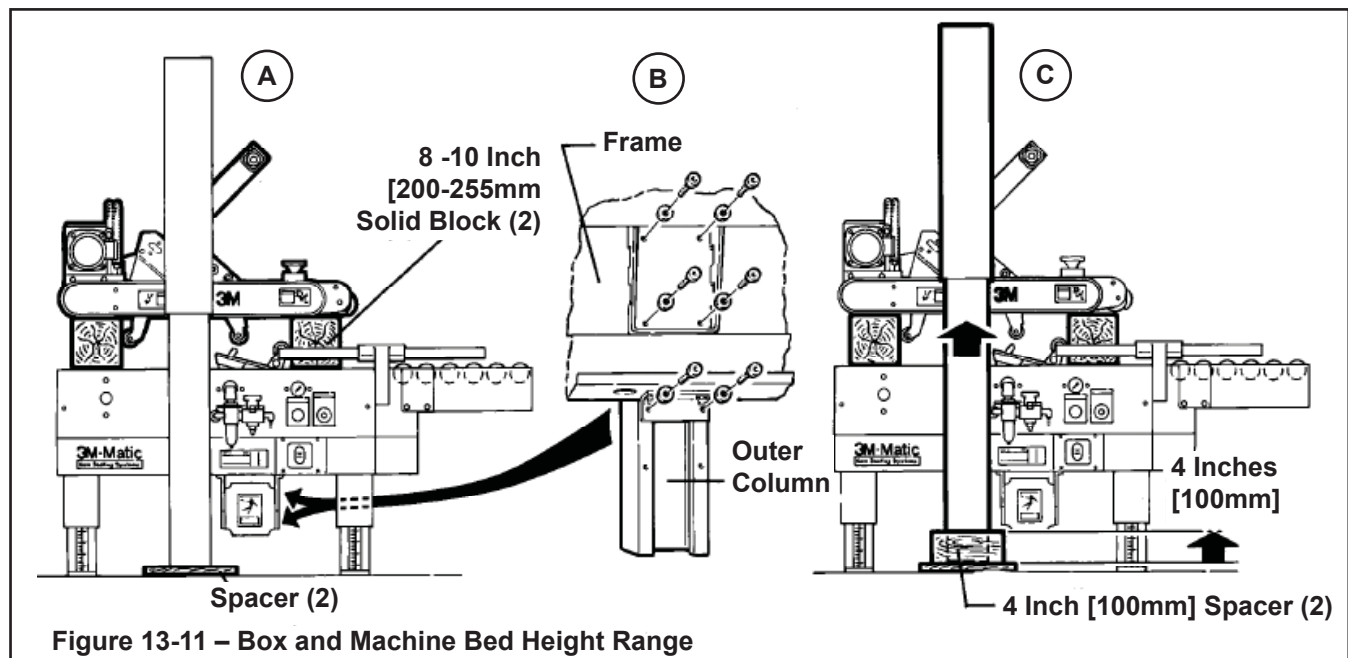

Figure 13-11 – Box and Machine Bed Height Range
### Box and Machine Bed Height Range – Refer to Figure 13-11
### **Box Height Range – (Refer to Figure 13-11 / Section 7.4 / and Specifications)**
2. Remove and relocate the stop bumper assembly to the desired position on both side columns. Be sure that the stop bumpers are reassembled as shown and secure (**See Figure 13-11 and Figure 15104**).